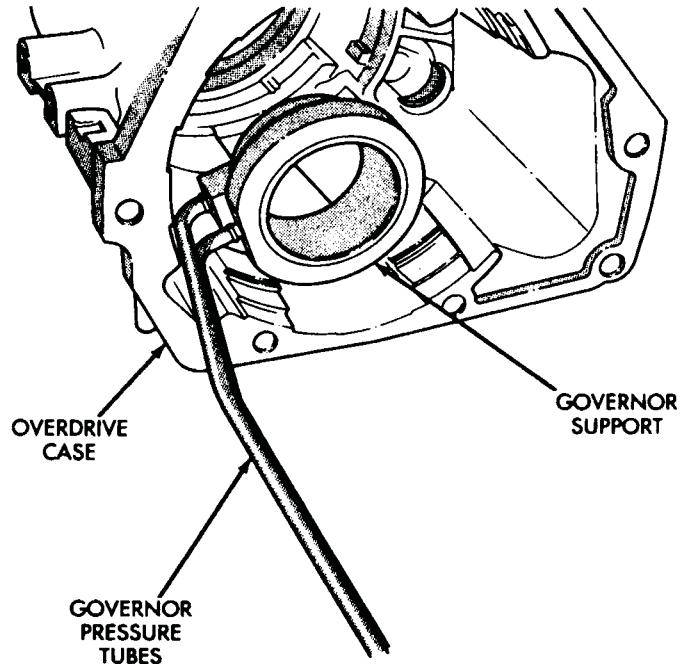

Fig. 13 Governor Support And Tube Assembly Removal
(13) Remove governor support and tube assembly from case (Fig. 13).